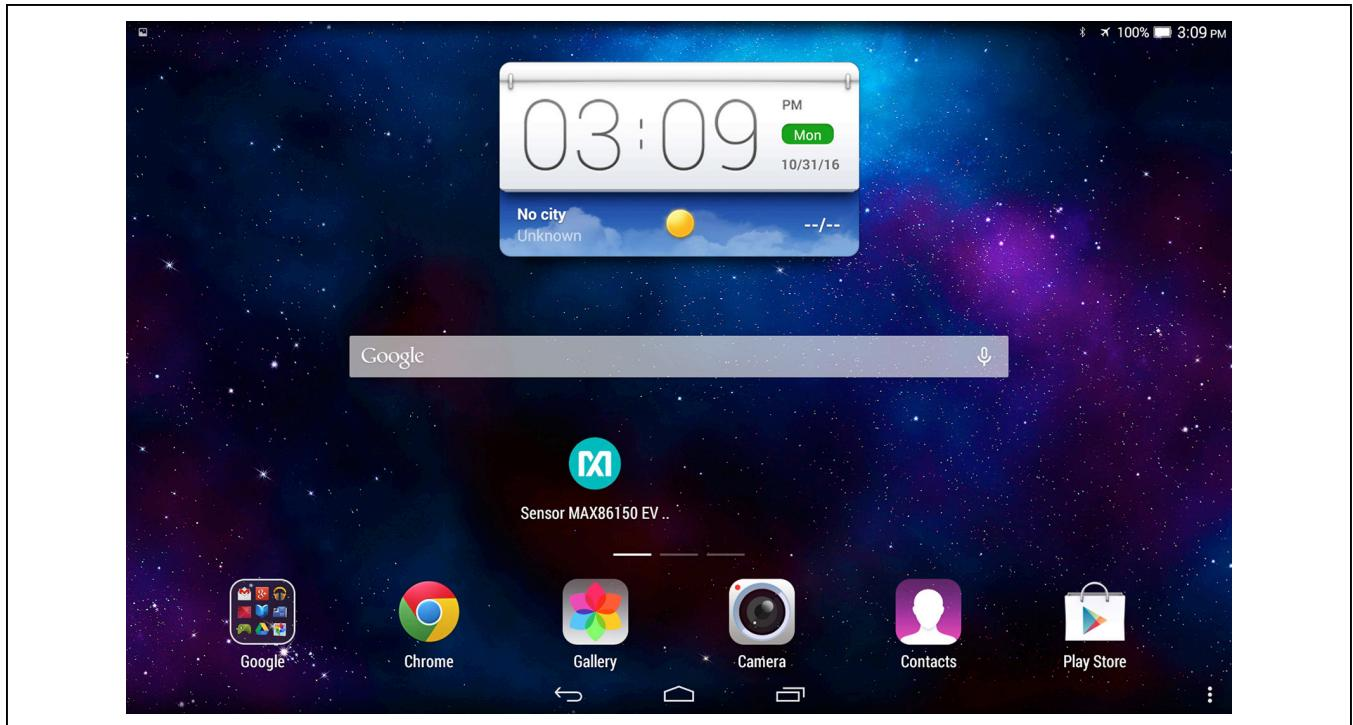

Figure 3. MAX86150 EV Kit Application Launcher
- 4) Open the “Sensor MAX86150 EV” Application by clicking the teal Maxim logo (Figure 3).